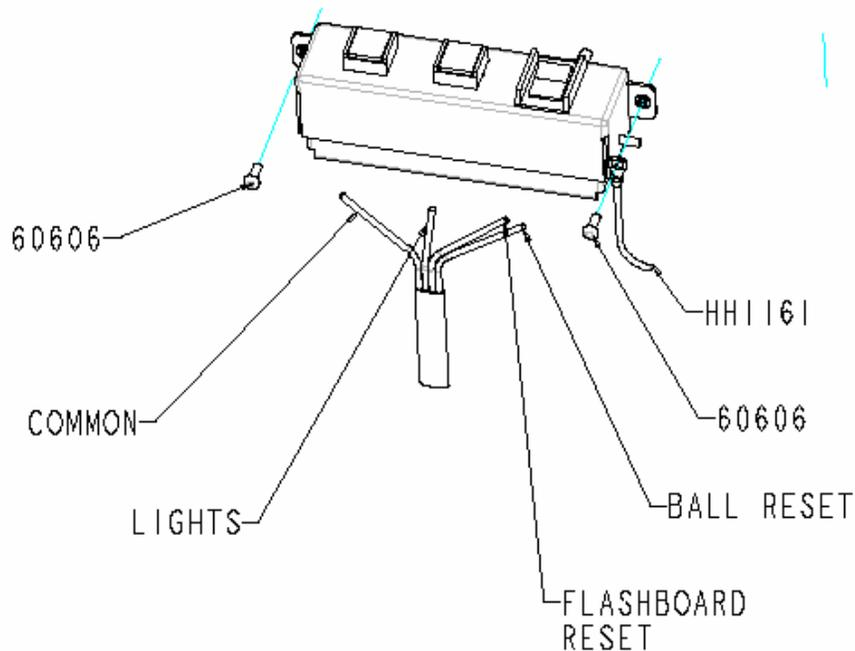

Figure 1.9
B. Install the ESD Clips (figure 1.8) (figure 1.9)